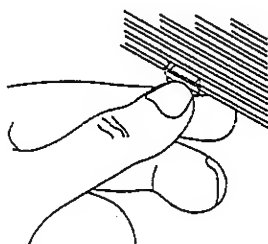

Figure 6.1-1
- To remove the louver, push down the nails at the bottom as shown in Figure 6.1-1 and pull the louver downward.